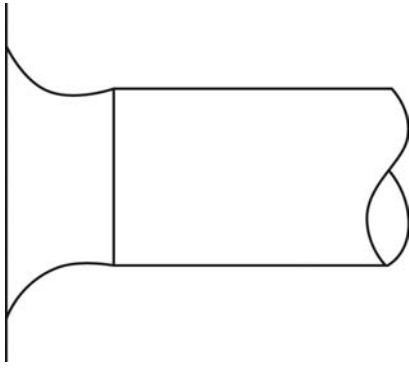
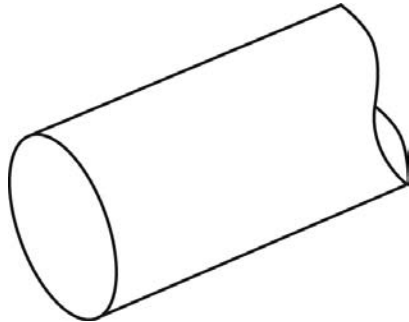

Fig. 1 — Bell mouth-shaped hood is good for energy savings.
Fig. 2 — Plain or raw edge collection orifice.
Bell mouth-shaped hoods (Fig. 1), with an entry loss coefficient factor of 0.04, are ideal for energy savings. In comparison, plain, or raw edge collection orifices (Fig. 2), have a factor of 0.93. At a velocity of 2500 ft/min, the velocity pressure (VP) of the duct has a factor of 0.39. With a bell mouth hood, the water gauge static pres-